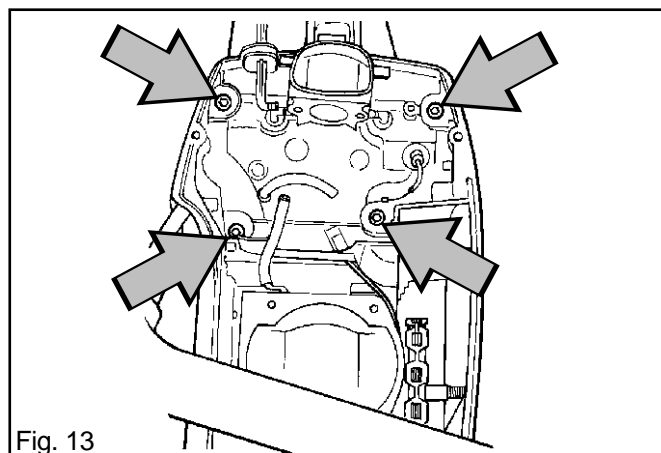
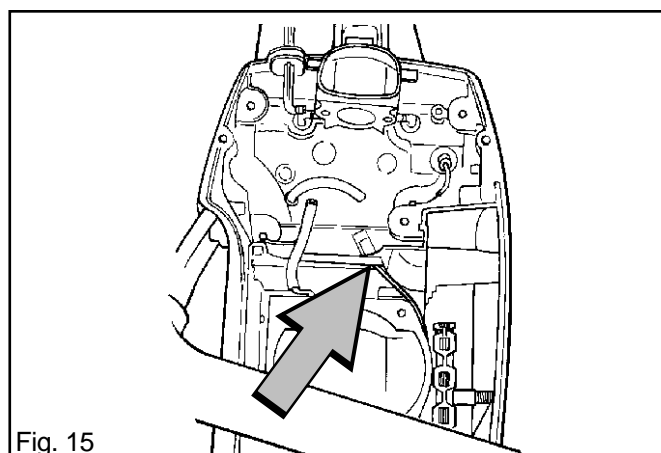

Fig. 13
Fig. 15
2. Detach the carburettor space bottom plate by removing the four bolts. See fig. 13.
6. Position the lead as shown in fig. 15 and reconnect it to the on/off switch.
7. Fit the carburettor space bottom plate with the four bolts. See fig. 13. Ensure that the lead is seated in the recess in the plate as shown in fig. 15. Tighten the bolts to 5 Nm.